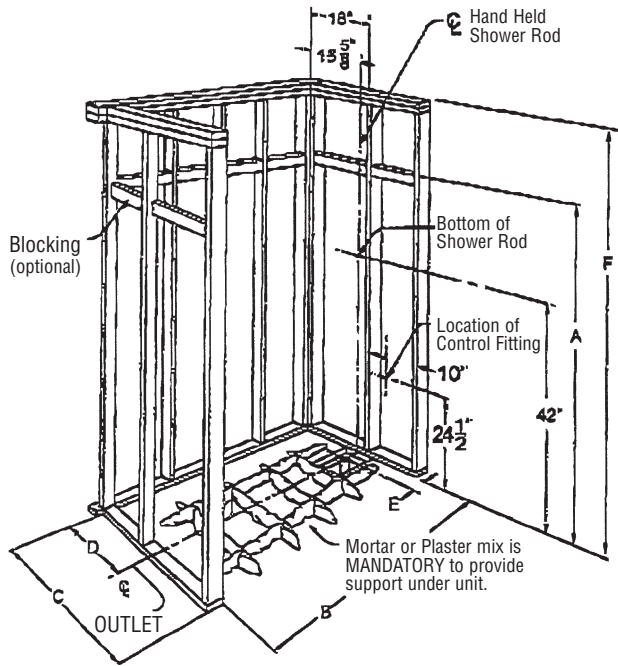

Figure 1
2. Review Figures 1 and 2 to make sure alcove is of proper size. If a fire rated alcove is required, approved finish material must be installed prior to unit installation.